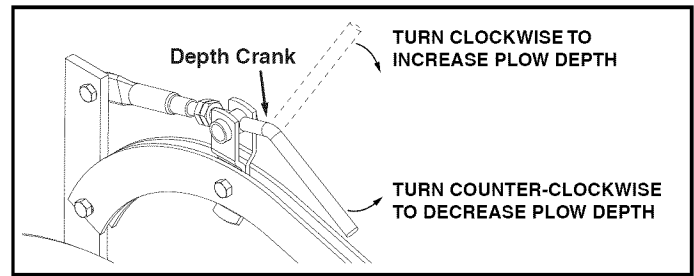

FIGURE 16
- If your plow is not plowing at 4" to 5" deep on your initial two passes, readjust the plow depth crank by turning it clockwise to go deeper or counter-clockwise to go shallower. Make this adjustment one turn at a time until desired depth is obtained. See figure 16 on page 11.
### DEPTH ADJUSTMENT (REFER TO FIGURE 16)